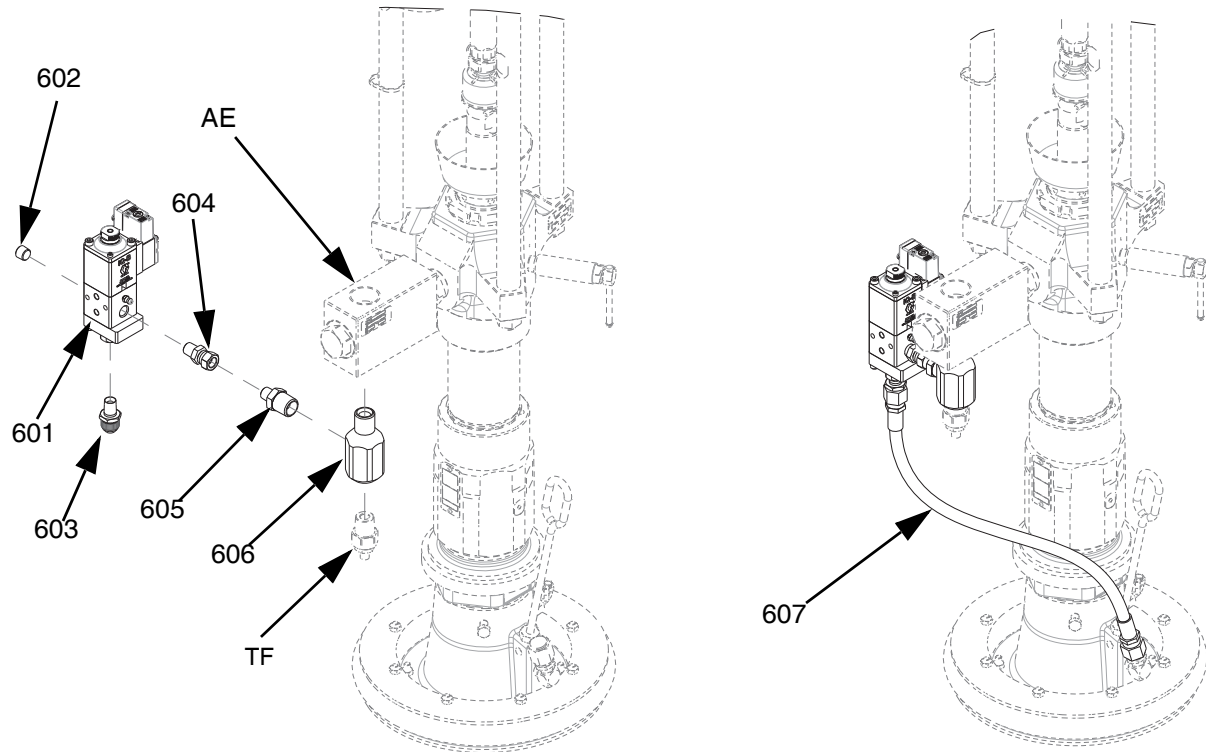
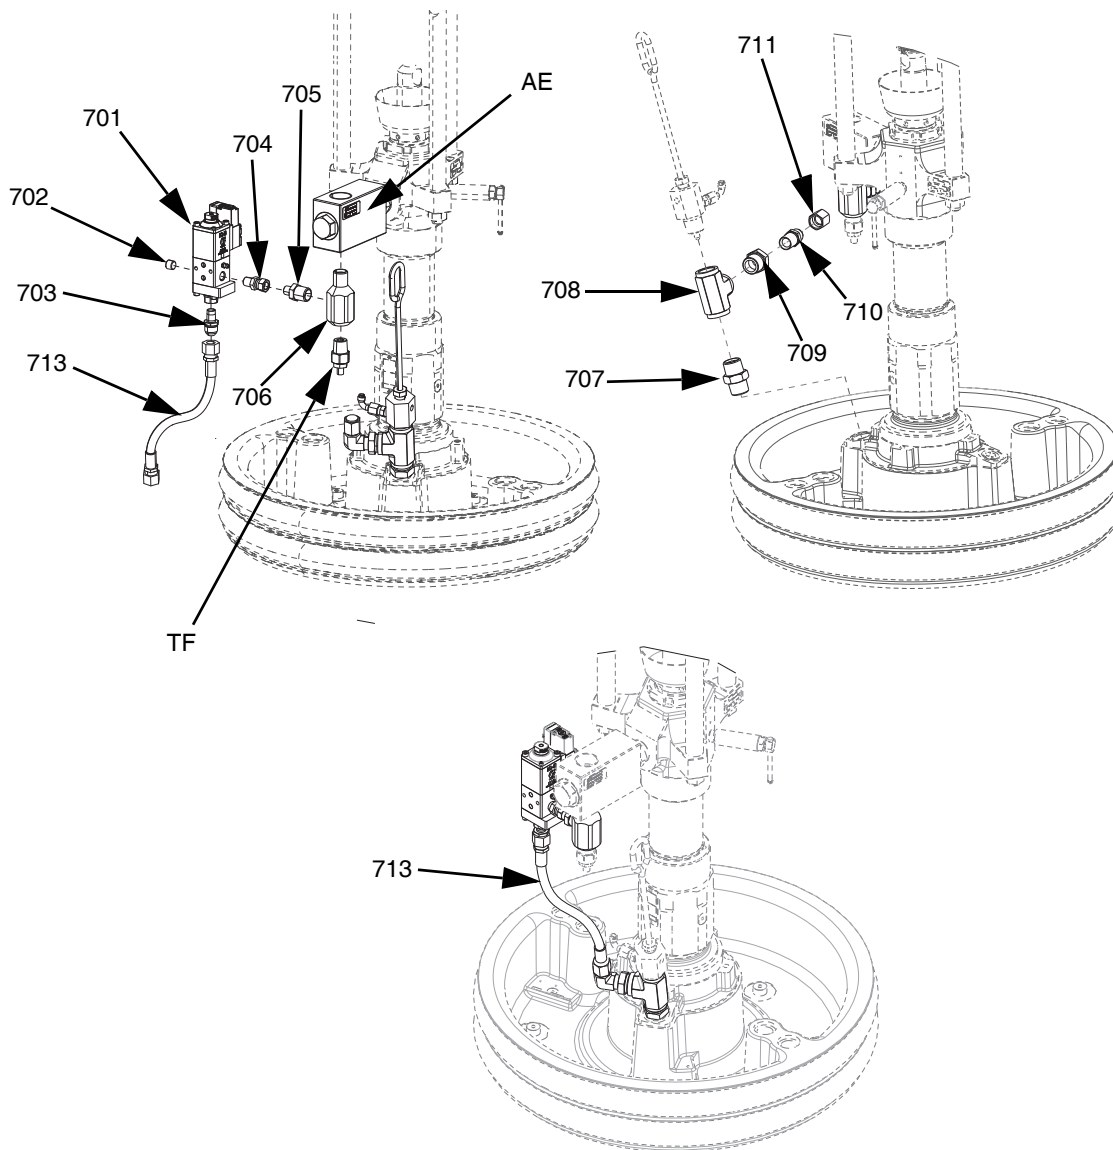

FIG. 68: Platen Valve Kit, 25R452
Fig. 72: Platen Valve Kit, 25R453
2. Disconnect the pressure transducer from port 5 on the Electric Driver (AB).
3. Remove the pressure transducer fitting (TF) and the fitting it is attached to from the Fluid Check Valve (AE).
4. Using thread tape, install the 1/2 NPT tee fitting (606) into the Fluid Check Valve (AE), then reinstall the pressure transducer fitting (TF) into the bottom of the 1/2 NPT tee fitting (606).
5. Using thread tape, install the 1/4 NPT x 1/2 NPT adapter (605) into the 1/2 NPT tee fitting (606). See FIG. 68.
6. Install the platen valve (601) onto the 1/4 NPT fitting (606) using the swivel fitting (604), then tighten.
7. Install the recirculation hose (607) onto the platen valve (601) and tighten.
8. Reconnect the pressure transducer to port 5 on the Electric Driver (AB).
4. Using thread tape, install the 1/2 NPT tee fitting (706) into the Fluid Check Valve (AE), then reinstall the pressure transducer fitting (TF) into the bottom of the 1/2 NPT tee fitting (706).
5. Using thread tape, install the 1/4 NPT x 1/2 NPT adapter (705) into the 1/2 NPT tee fitting (706). See FIG. 68.
6. Install the platen valve (701) onto the 1/4 NPT fitting (706) using the swivel fitting (704), then tighten.
7. Install the recirculation hose (713) onto the platen valve (701) and tighten.
9. Remove the Bleed Stick (EF) and Bleed Port (EG), and install the fittings (707, 708, 709, 710, 711) as shown in FIG. 72.
- NOTE:** Do not install the recirculation hose (713) onto the platen valve fitting (703) until material has been loaded into the platen valve (701). See the E-Flo iQ Operation manual for instructions to load material into the platen and platen valve.
10. Unplug the existing M12 connector from port 3 on the Electric Driver (AB).
11. Connect the harness (714) to port 3 on the Electric Driver (AB).
12. The harness (714) has an M8 connector and an M12 connector. Connect the M12 connector that was originally connected to port 3 on the Electric Driver (AB) to the M12 connector on the harness (714). Connect the M8 4 pin connector to the solenoid on the platen valve (701).